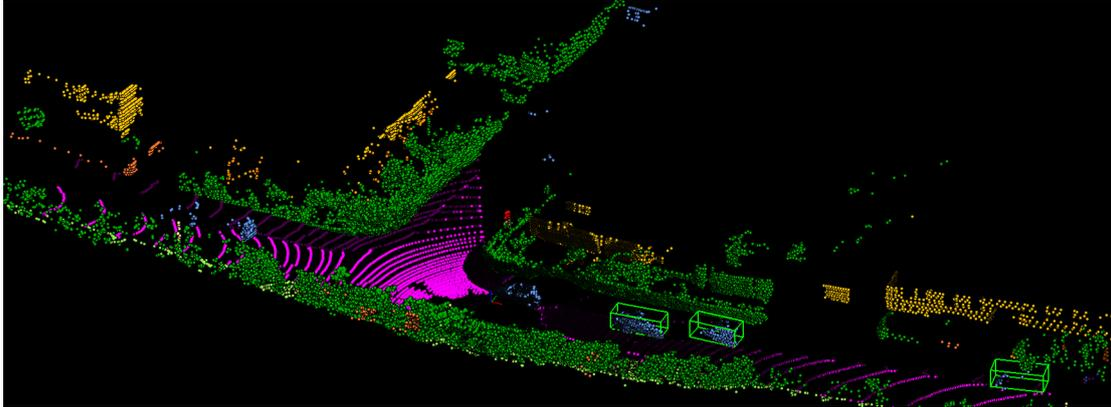

Figure 4: An example of a LiDAR point cloud visualized in 3D using a modified version of the provided `3dvis.py`.
3. Use and modify `3dvis.py` to visualize the scene in 3D. Color each point according to its semantic label and draw all 3D bounding boxes within the scene. Looking at the results, assuming that the semantic labels are all correct, how many cars did our network fail to identify that lie within the camera field-of-view? A reference solution can be seen in Fig. 4.